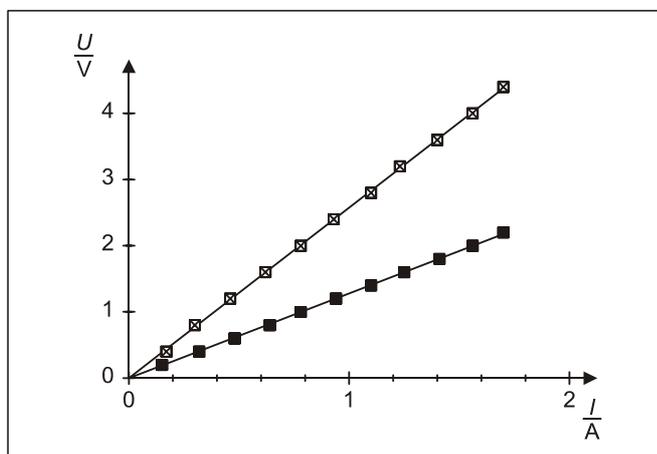

Fig. 3: Relation between the voltage U and the current I for constantan wires with the lengths $\ell = 1 \text{ m}$ (■) and 2 m (⊠)
Table 5: resistance R of a 0.7 mm thick constantan wire as a function of the length ℓ , determined from the slopes of the measured curves in Fig. 3
As is seen from Fig. 3 and Table 5, respectively, the resistance is doubled if the wire length is doubled. This result, too, is in agreement with Equation (II).